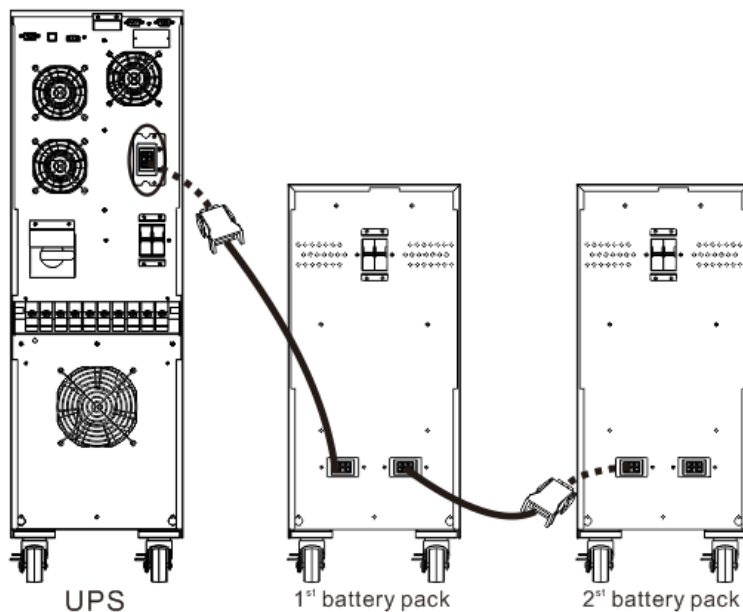

Figure 1, connecting the Battery Pack to the UPS
**NOTE:** If using one than one Battery Pack see Figure 1 below for the connections.